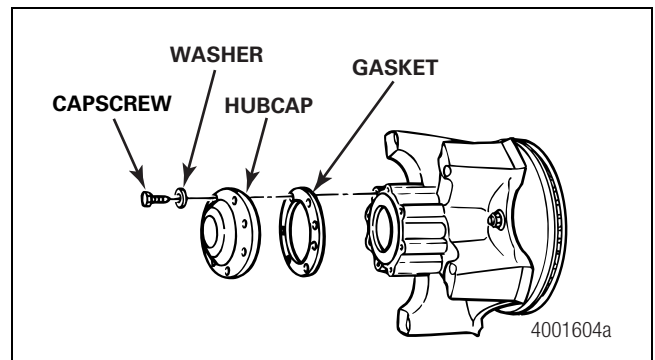

Figure 8.6
1. Place a container under the hubcap to receive the draining oil, then remove the hubcap and hubcap gasket. Figure 8.6.